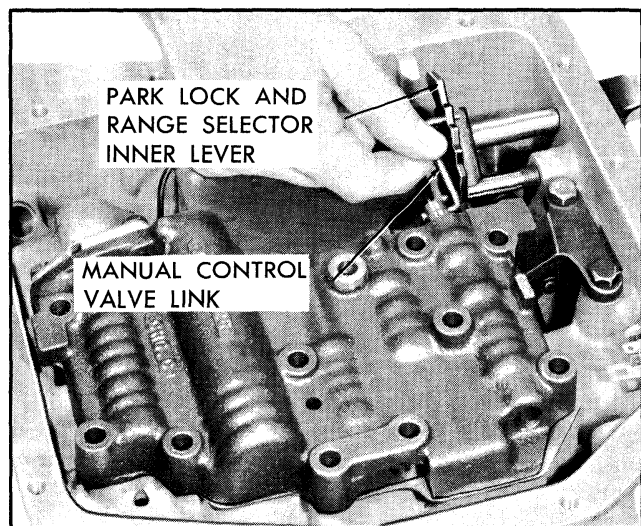

Fig. 7B-49 Engaging Manual Control Valve Link
6. Connect solenoid connector to case terminal (Fig. 7B-50). Make certain that case terminal retaining finger engages connector and wire is retained by clip.